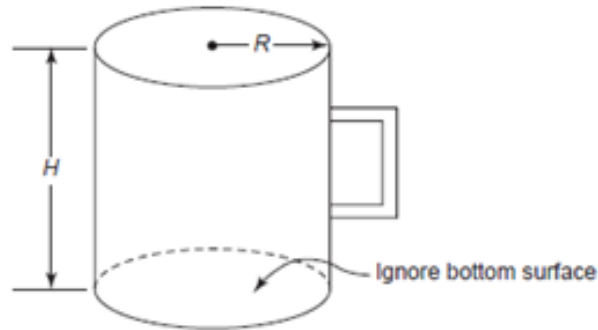

FIGURE E2-3 Beer mug.
2.3 Design a beer mug, shown in Fig. E2-3, to hold as much beer as possible. The height and radius of the mug should be not more than 20 cm. The mug must be at least 5 cm in radius. The surface area of the sides must not be greater than  $900 \text{ cm}^2$  (ignore the area of the bottom of the mug and ignore the mug handle—see figure). Formulate the optimum design problem.